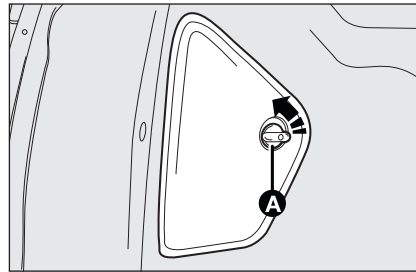
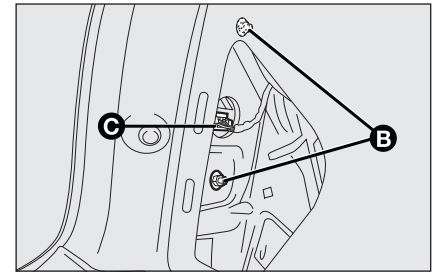

fig. 27
fig. 28
- turn the fastening device **A**-fig. 27 anticlockwise (left flap) or clockwise (right flap) and remove the cover;
- disconnect the electric connector **C**-fig. 28;
- insert the bulb holder, making sure that the two tabs are correctly fastened; insert the light cluster inside the housing and connect the electric connector **C**-fig. 28; fasten the two nuts **B**; fasten the cover making sure that the tabs are inserted in the seat and turn the fastening device **A**-fig. 27 anticlockwise (left flap) or clockwise (right flap) to secure it.